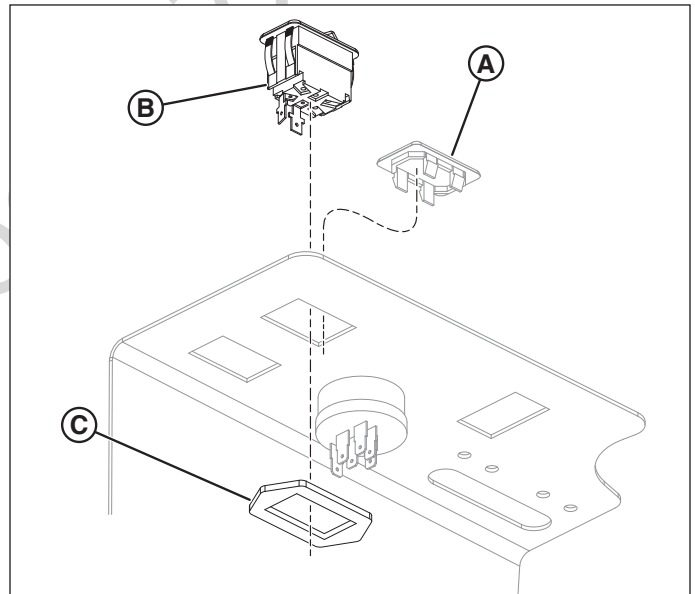

Figure 1. Installing the Light Switch
3. Remove the plug (A, Figure 1) from the instrument control panel.
4. Install the head light switch (B) into the control panel and use the retainer (C) to hold it into place.